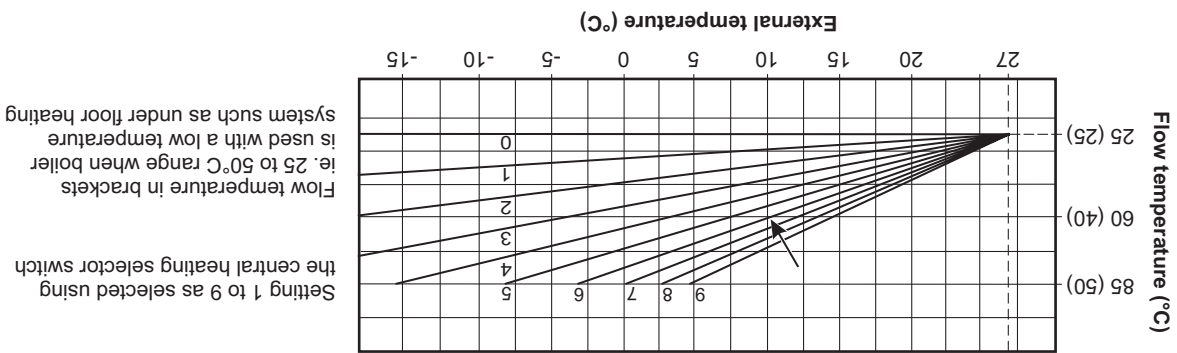

Fig. 2 - External weather compensation probe fitted
When an external weather sensor is fitted, the central heating temperature control buttons (items 6 and 7 in Fig. 1) will no longer adjust the flow temperature in °C, instead the display will show a scale of 1 to 9. Each number corresponds to a line on the graph in Fig 2. i.e. line 6 will give a flow temperature of 60°C when the external temperature is 10°C.